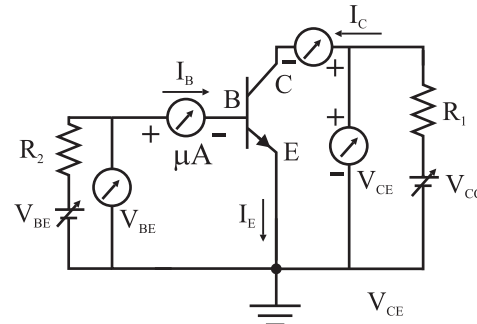

Fig. 16.22: Circuit to study Common Emitter (CE) characteristic.
16.4.2 The Common Emitter (CE) characteristic:
A typical circuit used to study the common emitter (CE) characteristic is shown in the Fig. 16.22.